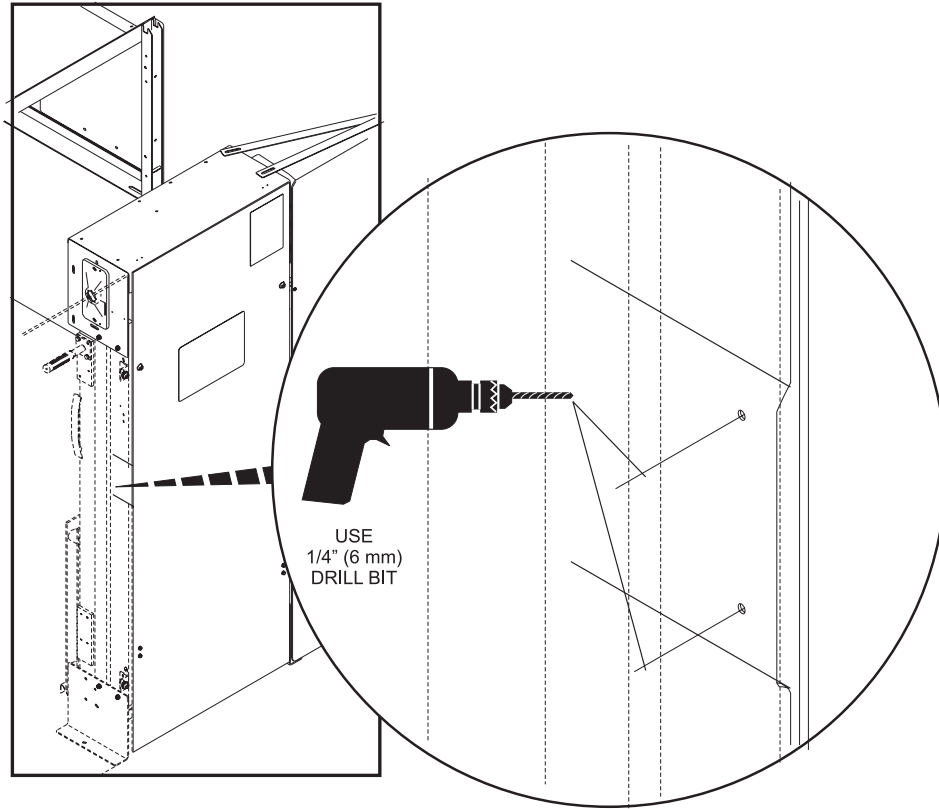

Figure 5
1. Drill 1/4" Diameter thru holes at marked mounting hole locations on elevator. *Figure 5.*